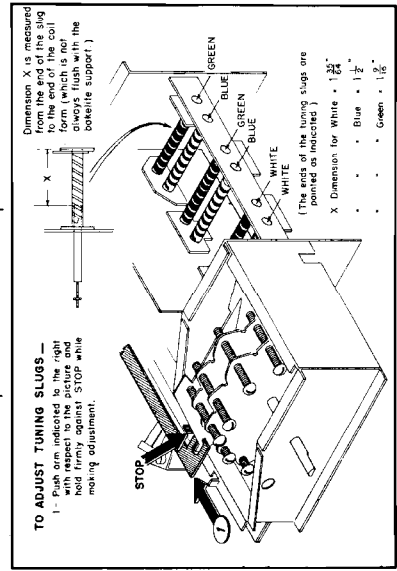

Figure 12. Tuner Core Adjustment
1. Adjust the tuning cores to the positions shown in figure 12.
5. Adjust the tuning cores to the positions shown in figure 12.